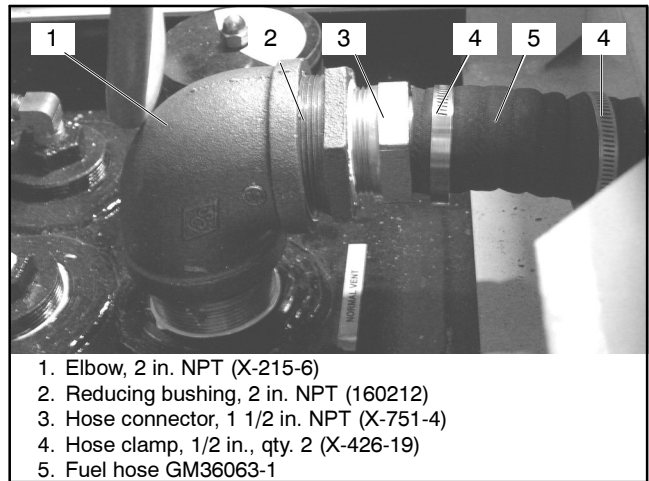

Figure 9 Secure Fuel Hose to Hose Connector
- 2.1.11 Slide fuel hose GM36063-1 over 1 1/2 in. NPT hose connector X-751-4. Tighten 1/2 in. hose clamp X-426-19 securely to 1 1/2 in. NPT hose connector. See Figure 9.
- 2.1.12 Slide tube on overspill tank (GM46940) into fuel hose GM36063-1. Tighten 1/2 in. hose clamp X-426-19 securely to overspill tank tube. See Figure 9.